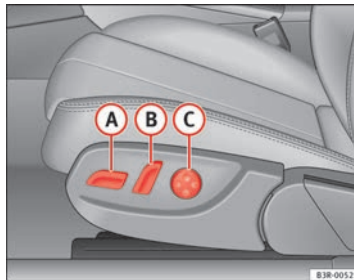
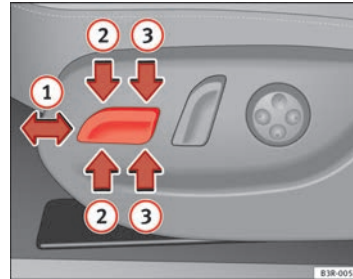

Fig. 105 Front seat: Adjuster controls
Fig. 106 Front seat: Seat adjustment switches
- Press switch **A** ⇒ Fig. 105 forwards or backwards **1** ⇒ Fig. 106 ⇒ **Δ**.